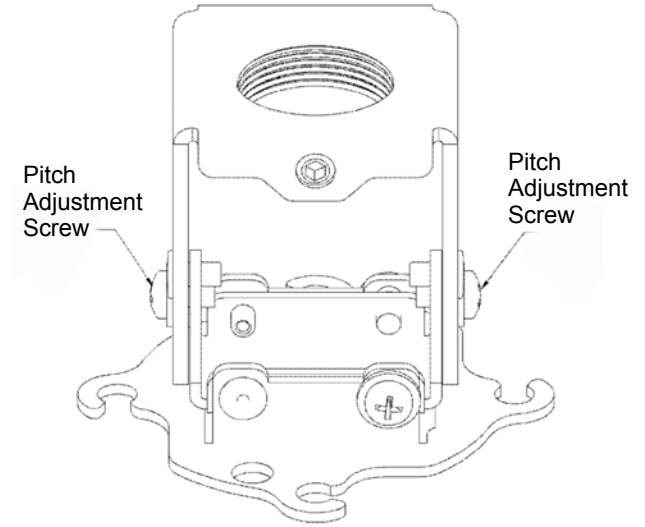

Figure 11. Pitch Adjustment Screws
1. Loosen the 10-24 x 3/8" pitch adjustment screws located on each side of the adjustment plate (see Figure 11).